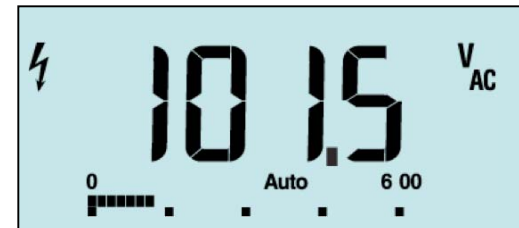

Figure 1. Measuring the line voltage at the input to a Pulse Width Modulated drive, appears to be normal
- Check the input line voltage (figure 1)